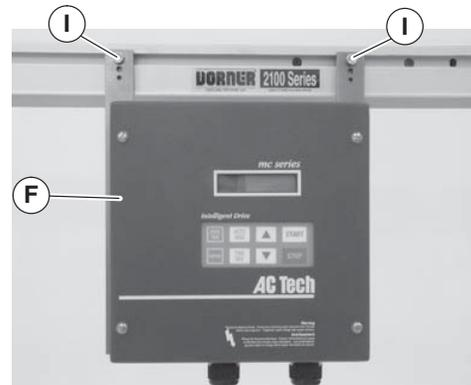

Figure 9
3. Attach controller (Figure 9, item F) to conveyor with screws (I).